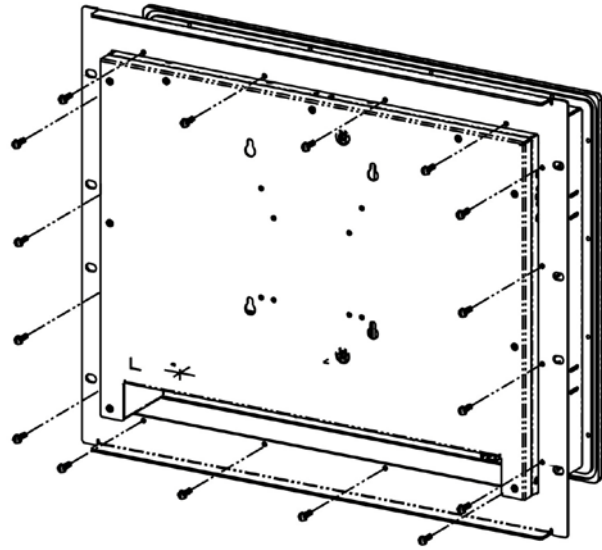

Figure 5-13: Secure the Cabinet/Rack Bracket
Step 4: Secure the cabinet/rack bracket to the monitor by inserting and tightening the retention screws (**Figure 5-13**).